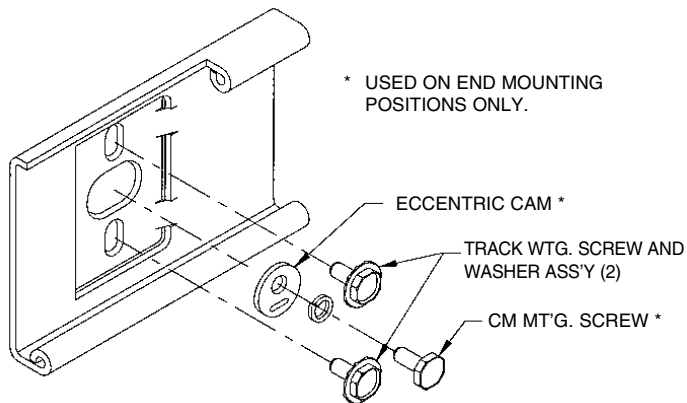
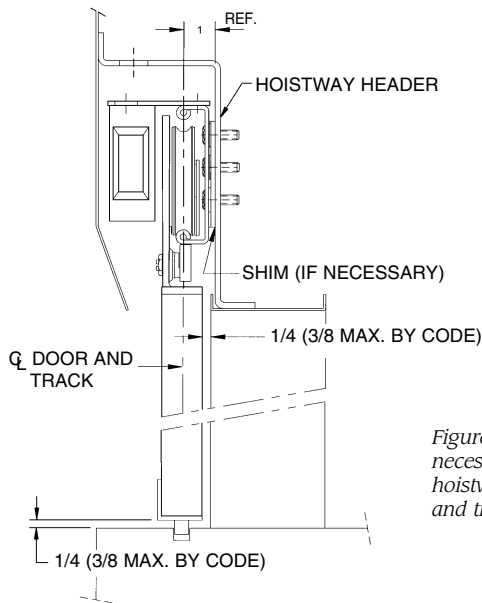

Figure 2: Set eccentric cams in the lowest possible position.
Figure 3: Shim as necessary between hoistway header and track.
- ◆ Mount the hoistway door tracks in position at each floor using the holes provided by the header manufacturer*. Eccentric cams should be set so that the track is in the lowest possible position (Figure 2). NOTE: Code restricts the space between door and jamb to a maximum of 3/8 inches (G.A.L. recommends 1/4in.) shim as necessary to attain this dimension (Figure 3).